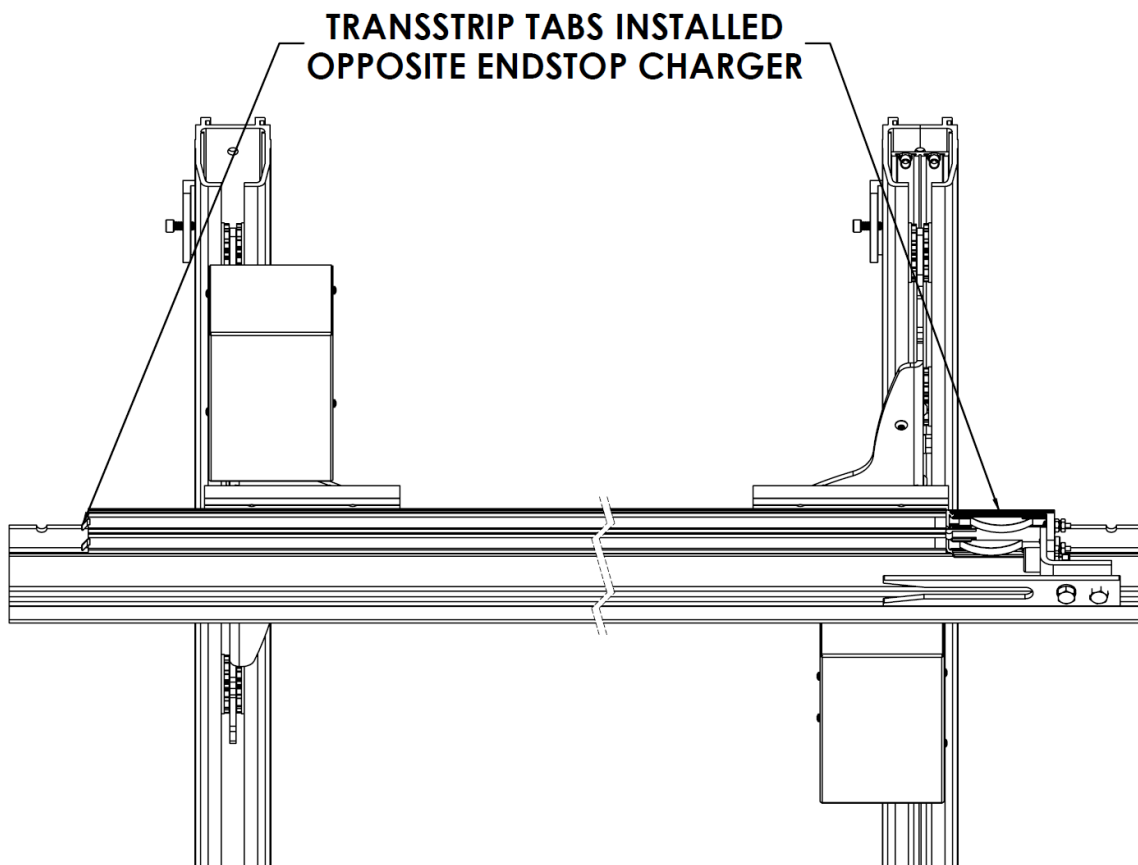

Figure 59: ***TransStrip Male Terminal Tabs***
- Make sure the male terminal tabs on the TransStrip are opposite the endstop charger (Figure 59).